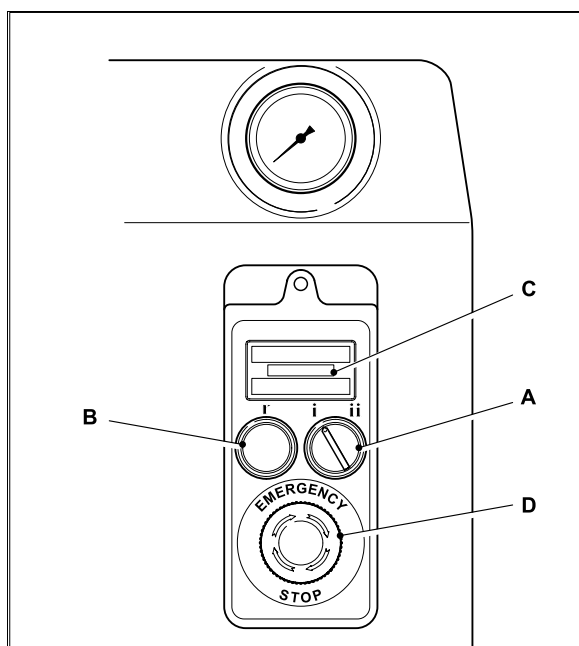
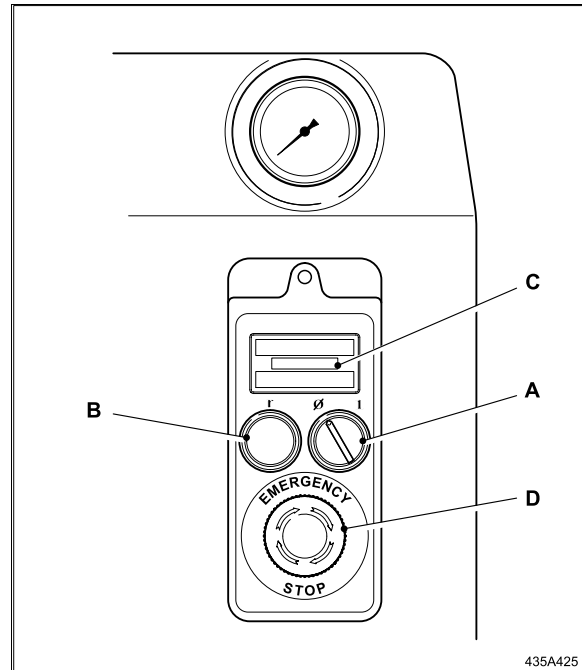

Fig. 14 - Compressor Operation
Fig. 15 - Regulated Speed Control TBA
8.4 Compressor operation Fig. 14
8.5 Starting - Continuous Mode Fig. 14
8.7 Starting - Regulated Speed Fig. 15
- (a) Press the stop/emergency stop button (D in Fig. 14 and Fig. 15).